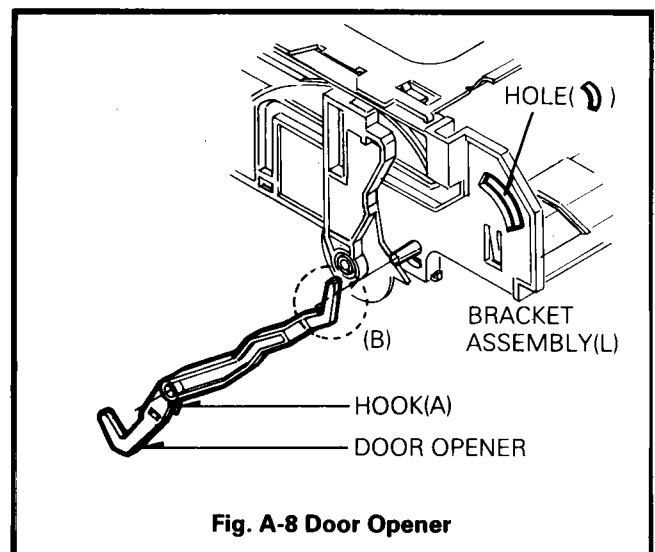

Fig. A-8 Door Opener
- 1) When reassembling, seat the shaft in the part(A) of Bracket Assembly(L),(R).
8. Door Opener(Fig. A-8)